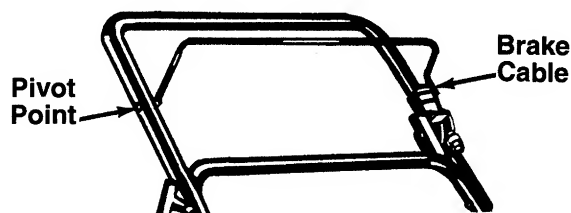

FIGURE 20.
**Blade Control**—Lubricate the pivot points on the blade control handle and the brake cable at least once a season with light oil. See figure 20. The blade control must operate freely in both directions.